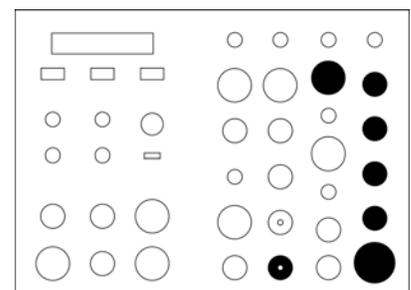

Figure 11. Locations of O₂ test equipment
1. As you test for O₂, use the equipment shown in Figure 11.